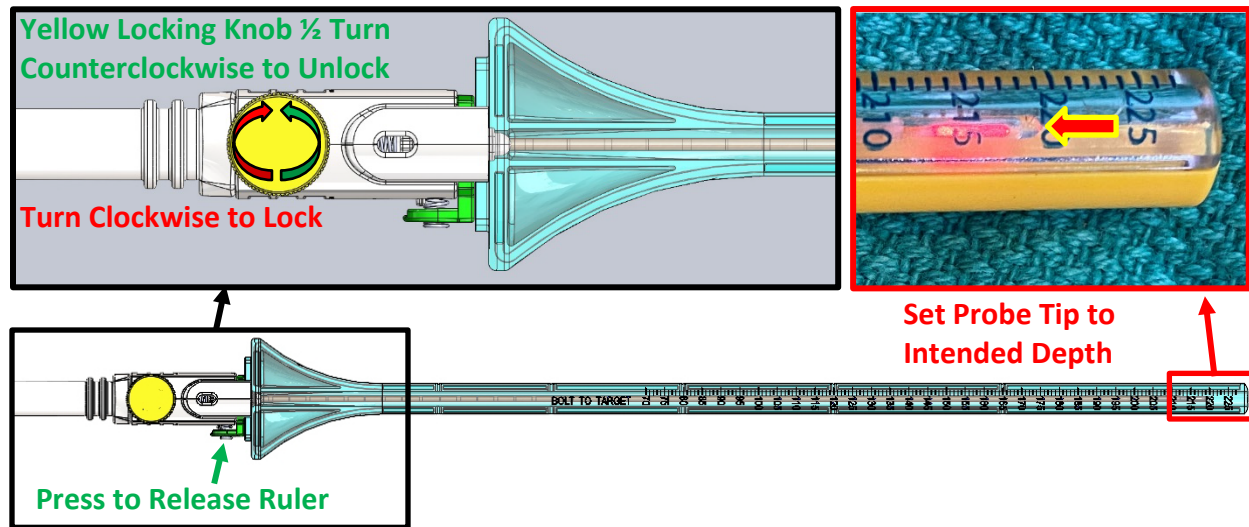

Figure 8.6.12: Setting the Floating Depth Stop - 1.6 NB3 Probe
- Rotate yellow locking knob turn counterclockwise to unlock the depth stop (Figure 8.6.12)
- Rotate the yellow lock knob clockwise to lock the depth stop (the lock knob cannot be overtightened) (Figure 8.6.12)
WARNING: Use of the protective ruler (Figure 8.6.12) to set the floating depth stop when advancing the 1.6 mm probe into the brain using only a skull bone anchor (no RPD) may allow the LDP tip to be delivered beyond the intended target. This may lead to patient injury.